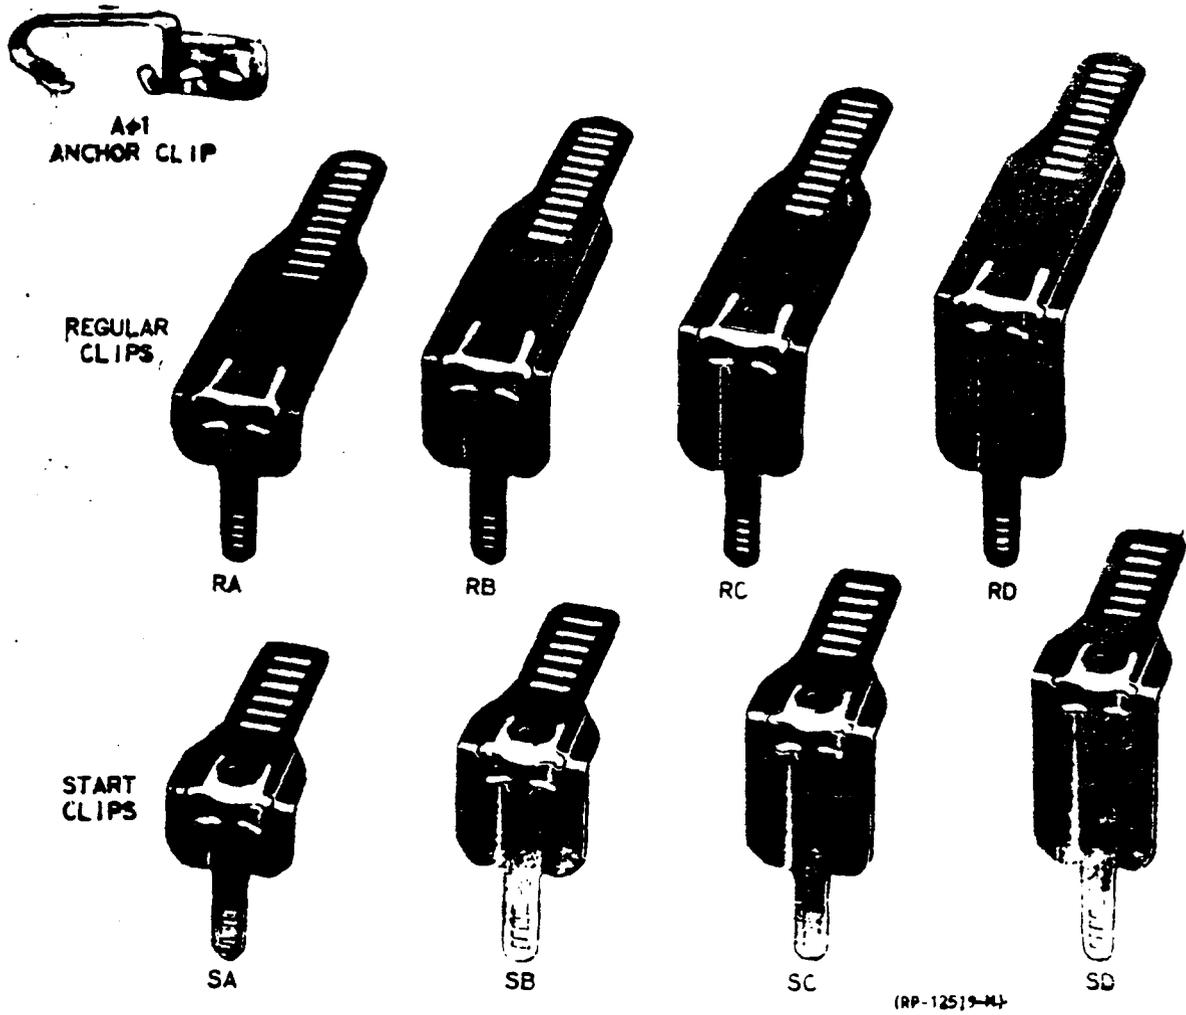

FIG. 2 LETTERED ADJUSTABLE FLAT TYPE CLIPS USED FOR CLIPPING SWITCHBOARD CABLE (FOR CLARITY, PLASTIC SLEEVES ARE NOT SHOWN ON CLIPS) (PARS. 3.11, 3.21, 3.31)
3.11 Anchor clips, designated A1 in Figure 2, are attached directly to channel cable rack straps and provide the means for attaching the adjustable clips.
3.21 Start clips, designated SA, SB, SC and SD in Figure 2, are used with regular clips to enclose and fasten the first group of cables in each layer of clips. They are also used as regular clips for fastening small groups of cables as shown in Figure 1, View C.
3.31 Regular clips, designated RA, RB, RC and RD in Figure 2, are used to enclose and fasten the cables in groups across the cable rack. They are arranged to engage with anchor, start or other regular clips for building up the cable run as shown in Figure 1, Views A, B and C.